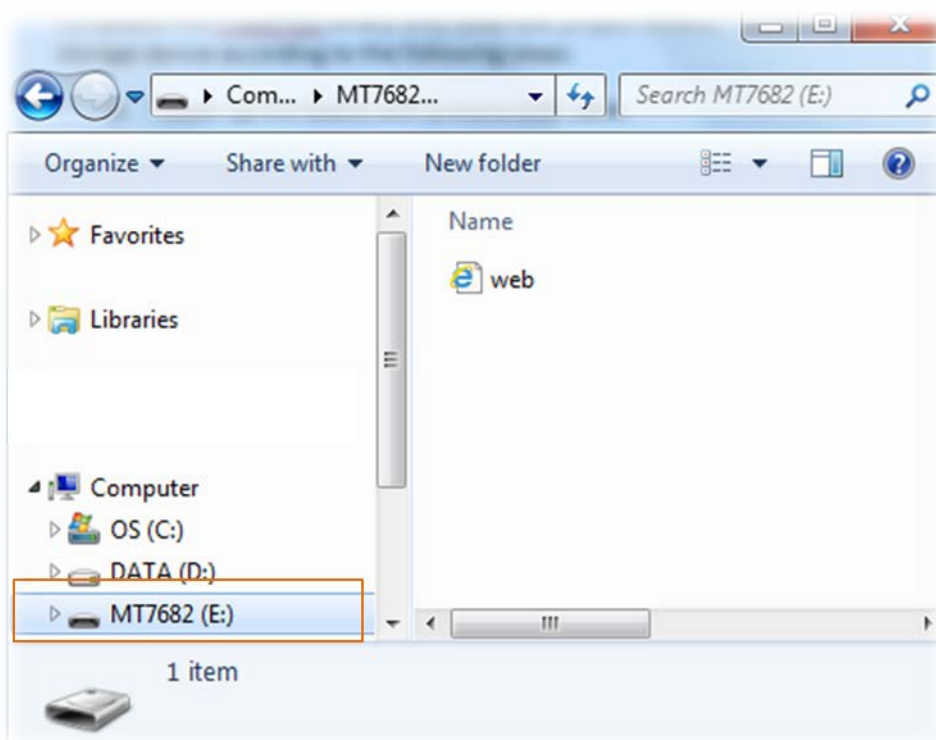

Figure 4. New removable storage detected
The development board should now be connected to the PC, as shown in Figure 4.
- 3) Navigate to **Computer** on your PC to check if a new mass storage named **MT7682** is available under **Removable Disk**, as shown in Figure 4.